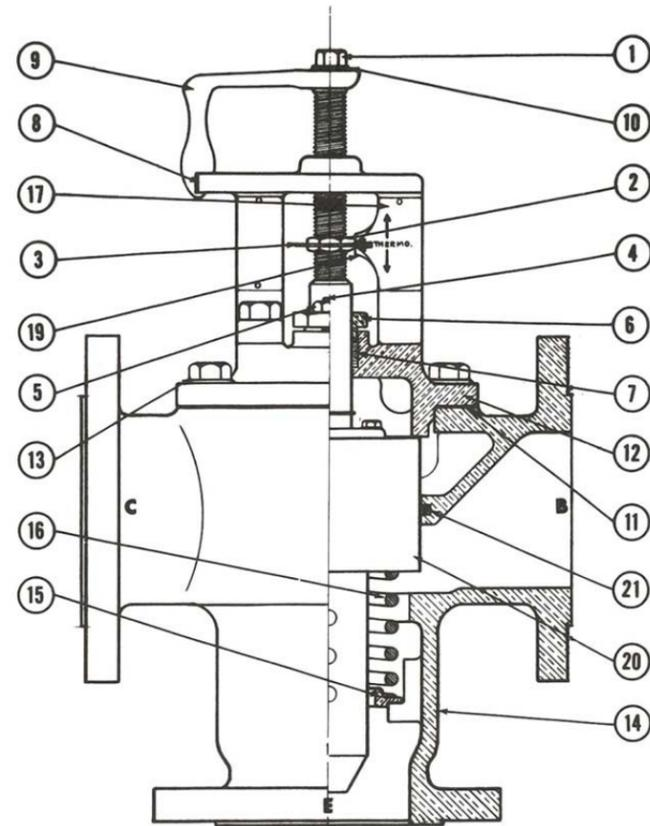

Figure 4
With low temperature liquid surrounding the POWER PILL, the poppet is in the upward position which connects ports "E" and "B." As the temperature increases, the POWER PILL stem extends forcing the poppet downward. When the temperature reaches the control point of the regulator, the valve will be at mid-stroke. If the temperature continues to increase, the poppet will continue to move downward until the by-pass port (B) is completely closed off. (See Figure 4.)
5. Reassemble as shown in Figures 4 through 5, depending on valve size.